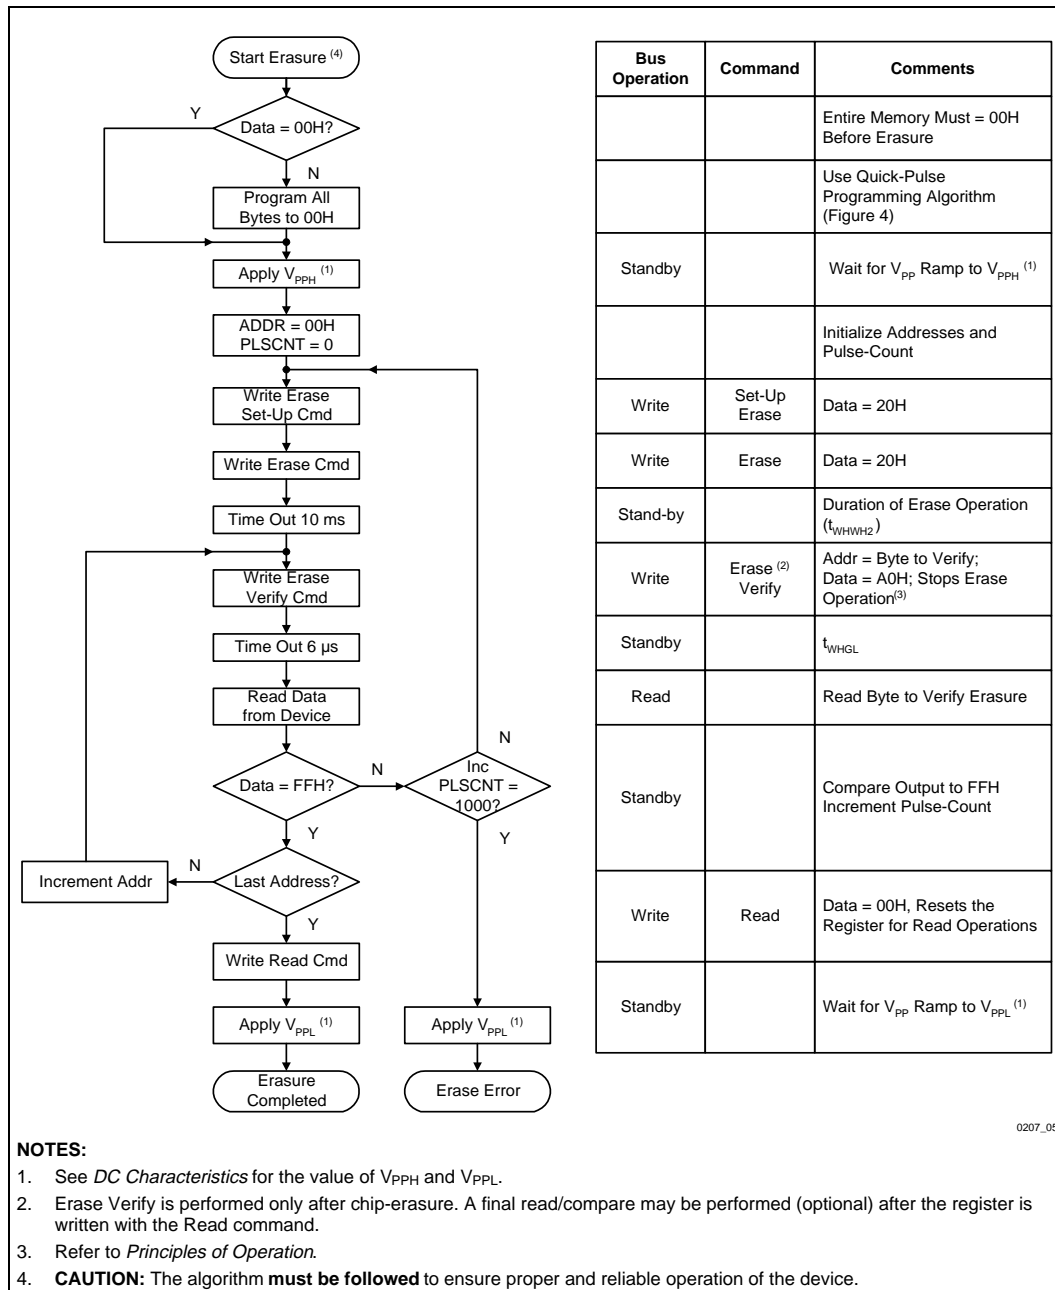

Figure 5. 28F010/28F020 Quick-Erase Algorithm
- Figure 5 illustrates the *28F010/28F020 Quick-Erase Algorithm* flowchart.
In the case where the data read is not FFH, another erase operation is performed. (Refer Section 2.2.2.3, *Set-Up Erase/Erase Commands*.) Verification then resumes from the address of the last-verified byte. Once all bytes in the array have been verified, the erase step is complete. The device can be programmed. At this point, the verify operation is terminated by writing a valid command (e.g., Program Set-Up) to the command register. Figure 5, the *28F010/28F020 Quick-Erase Algorithm* flowchart, illustrates how commands and bus operations are combined to perform electrical erasure of the 28F010 and 28F020. Refer to *AC Characteristics—Write/Erase/Program Only Operations* and waveforms for specific timing parameters.
The 5 Volt Bulk Erase applies an internally-generated margin voltage to the byte. A microprocessor read cycle outputs the data. A successful comparison between the programmed byte and true data means that the byte is successfully programmed. Programming then proceeds to the next desired byte location. Figure 5, the *28F010/28F020 Quick-Pulse Programming Algorithm* flowchart, illustrates how commands are combined with bus operations to perform byte programming. Refer to *AC Characteristics—Write/Erase/Program Only Operations* and waveforms for specific timing parameters.
Erase execution then continues with an initial erase operation. Erase verification (data = FFH) begins at address 0000H and continues through the array to the last address, or until data other than FFH is encountered. With each erase operation, an increasing number of bytes verify to the erased state. Erase efficiency may be improved by storing the address of the last byte verified in a register. Following the next erase operation, verification starts at that stored address location. Erasure typically occurs in one second. Figure 5 illustrates the *28F010/28F020 Quick-Erase Algorithm* flowchart.